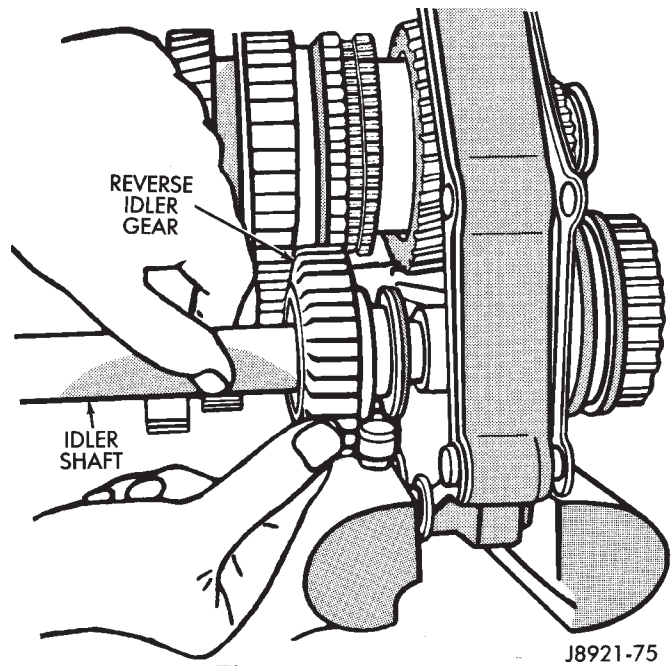

Fig. 68 Installing Reverse Idler Gear And Shaft
(2) Install reverse idler gear on shaft. Then install shaft and gear in intermediate plate (Fig. 68). Install shaft lock plate and tighten attaching bolt to 18 N·m (13 ft. lbs.) torque.